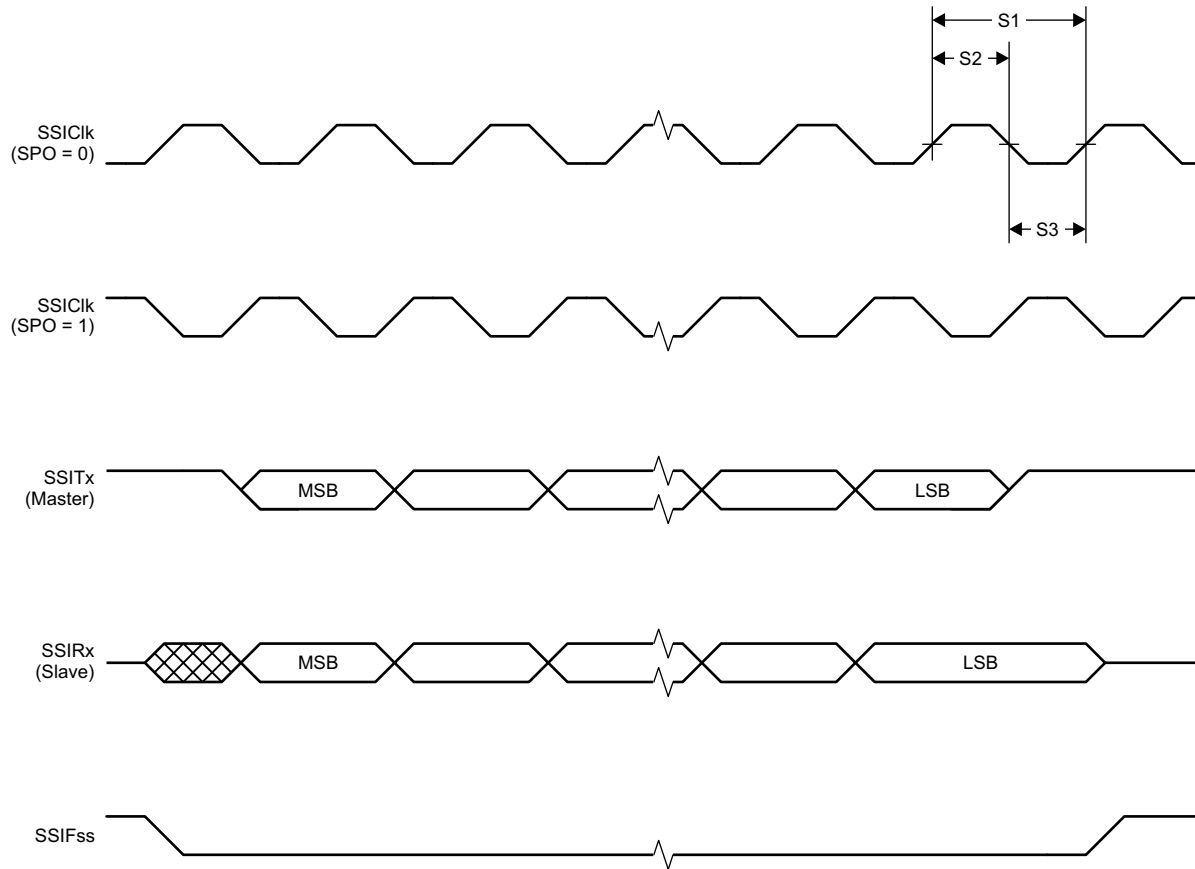

Figure 5-3. SSI Timing for SPI Frame Format (FRF = 00), With SPH = 1
(1) Refer to SSI timing diagrams Figure 5-1, Figure 5-2, and Figure 5-3.